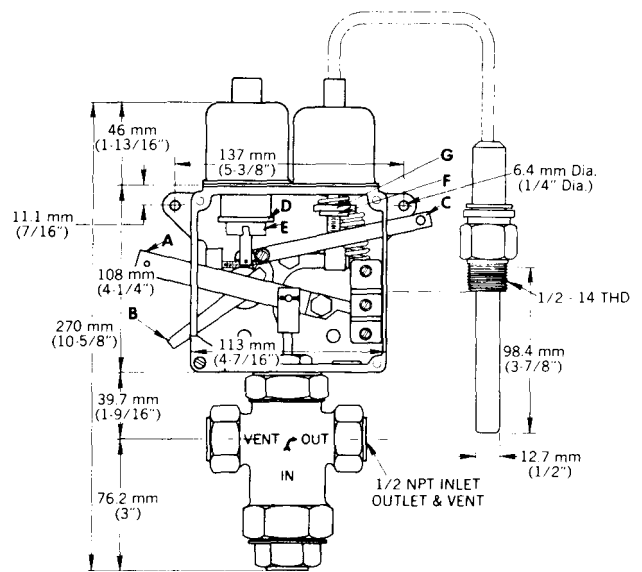

Figure 3
OPERATION - See Figure 3
ADJUSTMENTS - See Figure 3
2. Lever "A," Figure 3, will not stay in the UP position.
1. Lever "A," Figure 3, will not stay in the UP position.